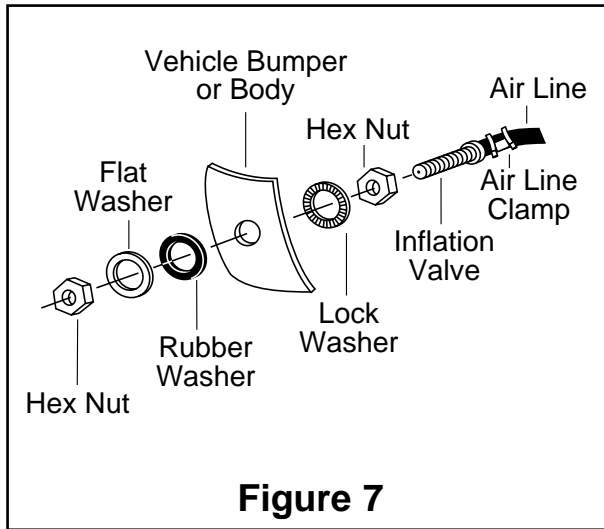

Figure 7
- J. Drill a 5/16" hole for inflation valve and mount as in illustration (Figure 7). Rubber washer is for outside weather seal.
E. Drill 5/16" hole for inflating valves and mount as illustrated. Rubber washer is for outside weather seal (Figure 7).